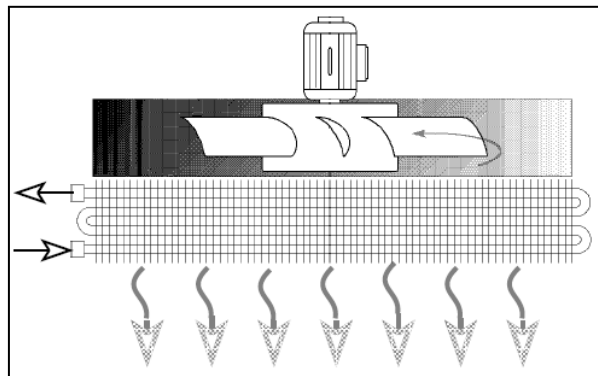

Figure 1 (b) / Rajah 1 (b)
- ii. Discuss the working principle of the air-cooled system shown in Figure 1 (b).